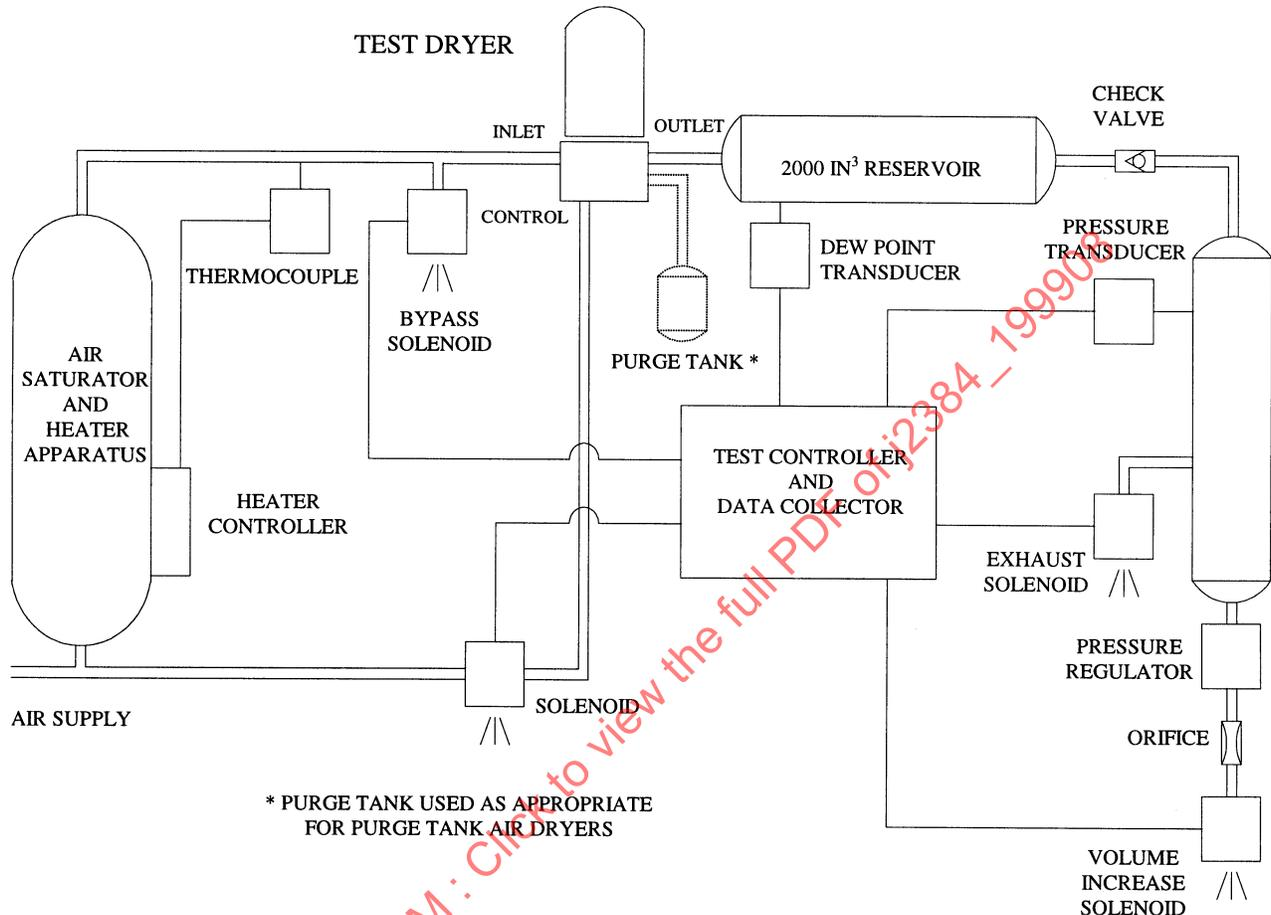

FIGURE 1—TEST SYSTEM
5.2.3 DRYER CAPACITY—Supply the dryer with air at 71 °C  $\pm$  2 °C (160 °F  $\pm$  3 °F), 340 slpm  $\pm$  10 slpm (12 scfm  $\pm$  0.3 scfm), and 97 to 100% RH. Connect the dryer Outlet Port to a test system as described in Figure 1 or equivalent. Cycle the air pressure in the test system through a 1.4 bar  $\pm$  0.1 bar (20 psig  $\pm$  1 psig) range at pressures between 6.8 to 8.4 bar (98 to 122 psig). The unload cycle time is to be 2 times greater than the load cycle time  $\pm$ 1 s, for a 33% duty cycle. Cycle until the Dew Point Temperature of the air in the reservoirs has stabilized. Record the test system reservoir volume and the reservoir air DPD22, where DPD22 is the Dew Point Depression assuming the ambient temperature is 22 °C (72 °F). This assumption ignores the minor error that will occur due to the actual ambient which is to be controlled between 19 to 25 °C (67 to 77 °F). Then increase the reservoir volume and repeat. Continue to increase the reservoir volume and
Note that in the test system of Figure 1, the purpose of the 'bypass solenoid' is to permit the continual flow of supply air to help maintain near constant dryer inlet temperatures. During the load cycle, the 'bypass solenoid' is closed and supply air flows through the dryer. During the unload cycle, the 'bypass solenoid' is open and the supply air flows out to atmosphere. The purpose of the 'volume increase solenoid' is to permit a controlled leak from the reservoir during the load cycle to simulate a larger reservoir.
Note that the 32.8 L (2000 in3) reservoir volume in the test system of Figure 1 is important in determining the purge volume of System Purge Air Dryers. For System Purge Air Dryers, the Dryer Capacity test may also be run with a larger reservoir in place of the 32.8 L reservoir, as long as the reservoir size used for the test is reported with the Dryer Capacity result.